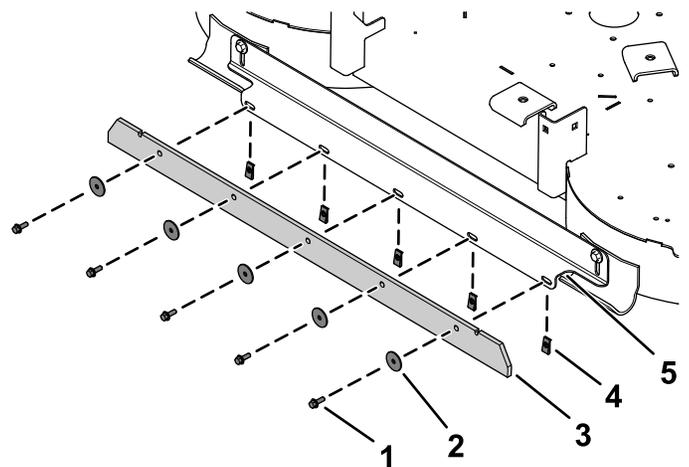

Figure 6
1. Install the 5 speed nuts onto the striping bracket (Figure 6).
2. Secure the wiper to striping bracket and speed nuts using 5 hex-head screws (1/4 x 3/4 inch) and 5 washers (Figure 6).